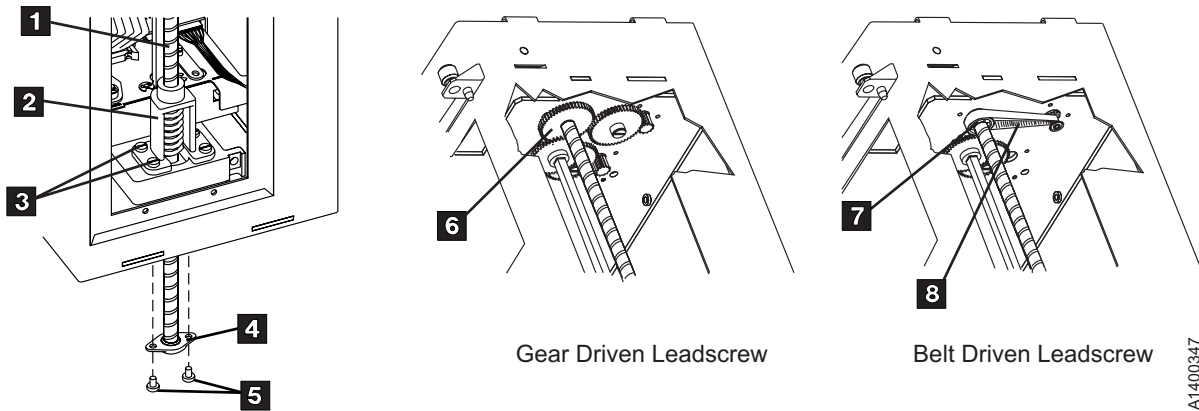
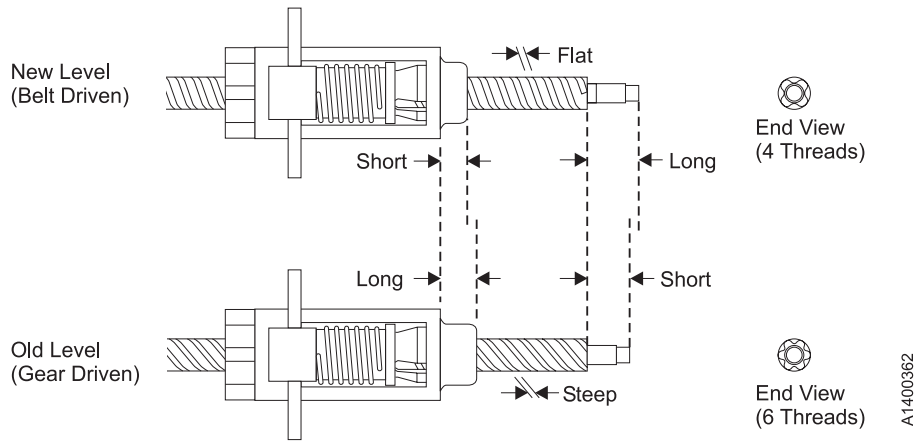

Figure 10-7. Gear-driven and Belt-driven Leadscrew Assembly
Figure 10-8. Differentiating Between Former Level and Current Level Leadscrew
There are two levels of leadscrew drive. See Figure 10-7 on page 10-16 and Figure 10-8 on page 10-17. The former level is gear-driven, **6**, and the current level is belt-driven, **7** and **8**.
4. See Figure 10-7 on page 10-16. Rotate the elevator leadscrew **1** to position the elevator assembly all the way to the bottom of the ACF.
Figure 10-8 on page 10-17 shows the differences between the former level and new level leadscrew assemblies.